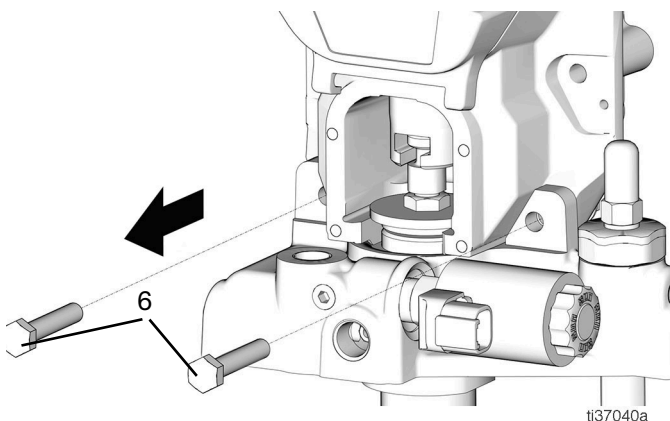

FIG. 70
30. Remove the two bolts (6) and two nuts (7) (FIG. 70).